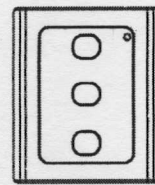

Figure 3
3. Close the cover of wireless wall switch (Fig.3)